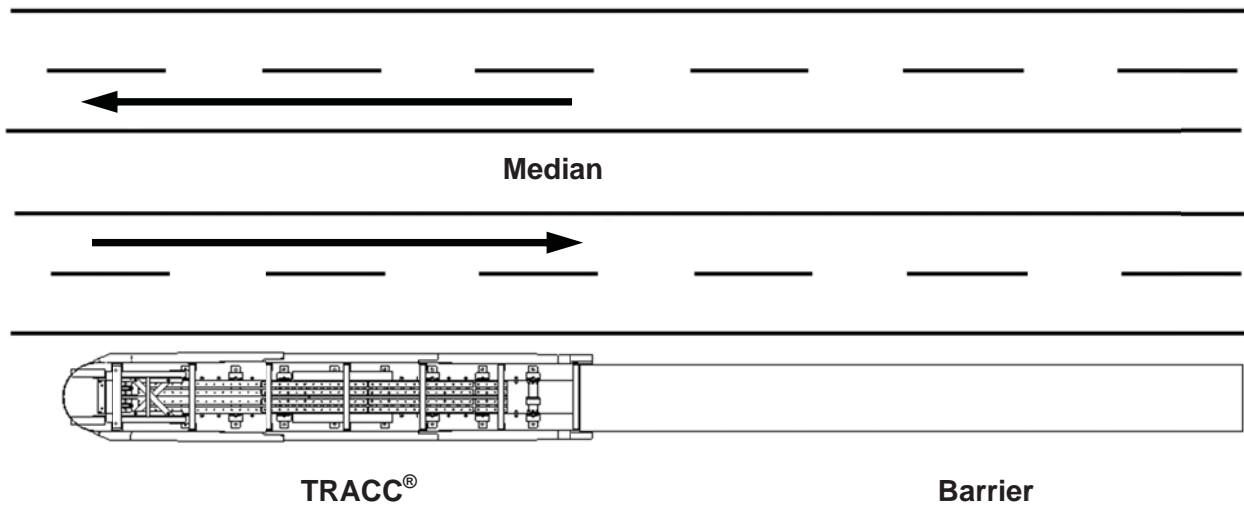

Figure 5 - Unidirectional Traffic Flow – One Side – Requires No Transition
Assembly of a TRACC[®] system and its backup connections or transitions depends on the traffic pattern and the road feature at the particular location. Unidirectional traffic (one side or both) requires no transition (Figures 5 and 6), only a connection to a backup structure. The Backup Frame can be attached to any solid structure including a square cast-in-place concrete pillar, a vertical concrete wall, or the end of a New Jersey-style barrier with additional brackets (p. 8). For “free-standing” assemblies, Trinity Highway can provide two (2) standard guardrail posts to be driven or two (2) foot-plate posts to be anchored to the concrete or asphalt pad and attached to the Backup Frame. Trinity Highway can provide an adaptor to allow direct attachment of the Backup Frame to a variety of concrete barrier or guardrail profiles. Call Customer Service at 1-888-323-6374 or your local Trinity Highway representative with questions regarding this and other types of assembly.